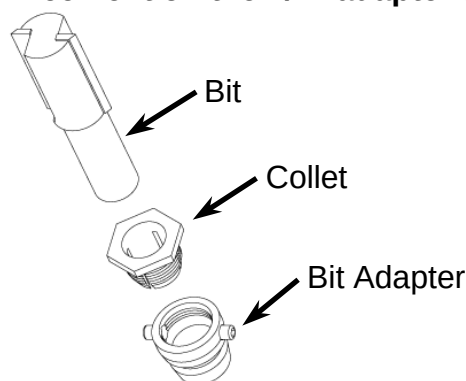
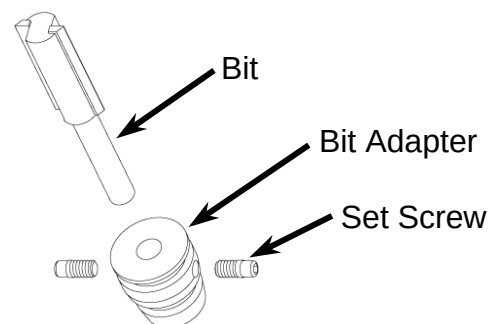
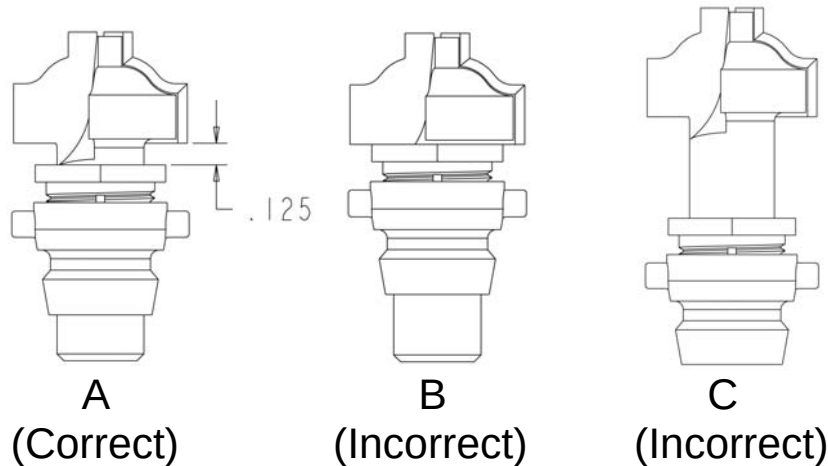

**FIGURE 22:** COLLET ARRANGEMENT FOR 1/2" SHANK BITS
**FIGURE 23:** COLLET ARRANGEMENT FOR 1/4" SHANK BITS
**FIGURE 24:** CORRECT BIT ASSEMBLY IS SHOWN IN EXAMPLE A. THE BIT IS TOO LOW IN EXAMPLE B AND TOO HIGH IN EXAMPLE C.
The CompuCarve utilizes a patented quick release chuck system to make changing bits fast and easy. To use this system the bits must first be installed into the bit adapters. We recommend that each 1/4" bit used in the machine have its own dedicated adapter since the setscrews are required to be thread cemented. Swapping adapters will lead to stripped setscrews. In the case that the bit needs to be replaced, apply heat to the setscrews first to soften the thread cement before loosening. The bits must be spaced properly in the adapters. Please see Figures 24 and 25 for proper spacing.
**For 1/2" shank bits,** insert threaded bit adapter into the chuck assembly and then insert bit into threaded collet (See Figure 22) and tighten the collet with a wrench. Position the bit in the adapter as shown in Figure 24. Verify that the collet is also securely tightened.
**For 1/4" steel shank bits:** Remove the two setscrews from the adapter body and de-grease both the setscrews and threaded holes. This can be done using rubbing alcohol or a product such as WD40. Thoroughly dry the parts. Apply a drop of permanent thread cement on each setscrew to prevent them from loosening and start the treads. Insert the bit into the bit adapter and tighten the setscrews with supplied Allen wrench (See Figure 23). Position the bit in the adapter as shown in Figure 24 and *always make sure the setscrews are tight*.